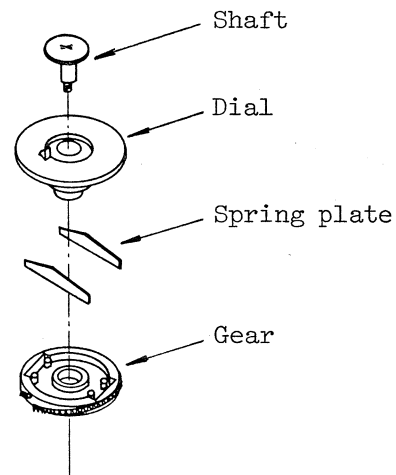

Fig. 2-1
3. In order to adjust the film take-up torque, the take-up dial should be taken all of the pieces as indicated Fig. 2-1.